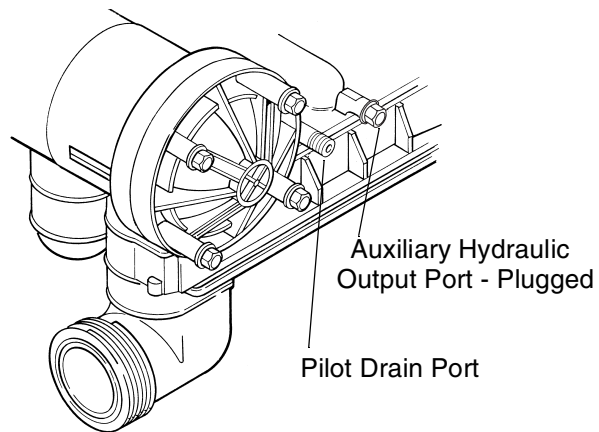

Figure 3.2
**Pilot Drain** - During regeneration, a small amount of water (200 ml or 1 cup) is discharged from the 1/4-inch (6.3-mm) tube fitting on the back of the valve marked DRAIN (Figure 3.2). To prevent this water from being discharged to the floor, plumb this connection to a non-pressurized drain or to the brine tank. **Do not plug or apply back pressure to the pilot drain at any time.**